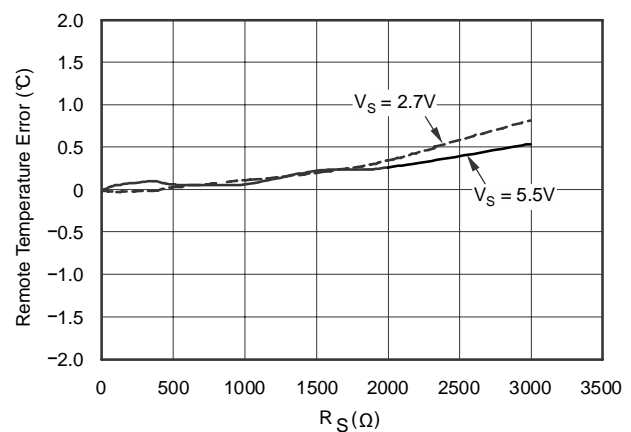
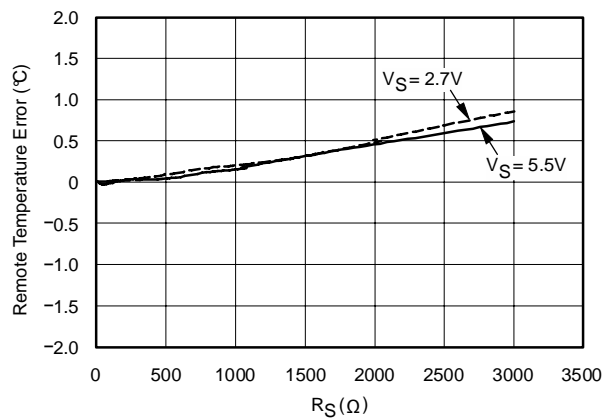

Figure 4. Remote Temperature Error vs Series Resistance (Diode-Connected Transistor, 2N3906 PNP)
Figure 5. Remote Temperature Error vs Series Resistance (GND Collector-Connected Transistor, 2N3906 PNP)
- (1) Diode-connected configuration provides better settling time. Transistor-connected configuration provides better series resistance cancellation. NPN transistors must be diode-connected. PNP transistors can either be transistor or diode-connected. TI recommends this layout for the MMBT3906LP and MMBT3904LP devices.
- (2) R_S (optional) must be $< 1.5\text{ k}\Omega$ in most applications. Selection of R_S depends on specific applications; see the Filtering section.
- (3) C_{DIFF} (optional) must be $< 1000\text{ pF}$ in most applications. Selection of C_{DIFF} depends on specific application; see the Filtering section and Figure 5.
See Figure 4 and Figure 5 for details on the effect of series resistance and power-supply voltage on sensed remote temperature error.